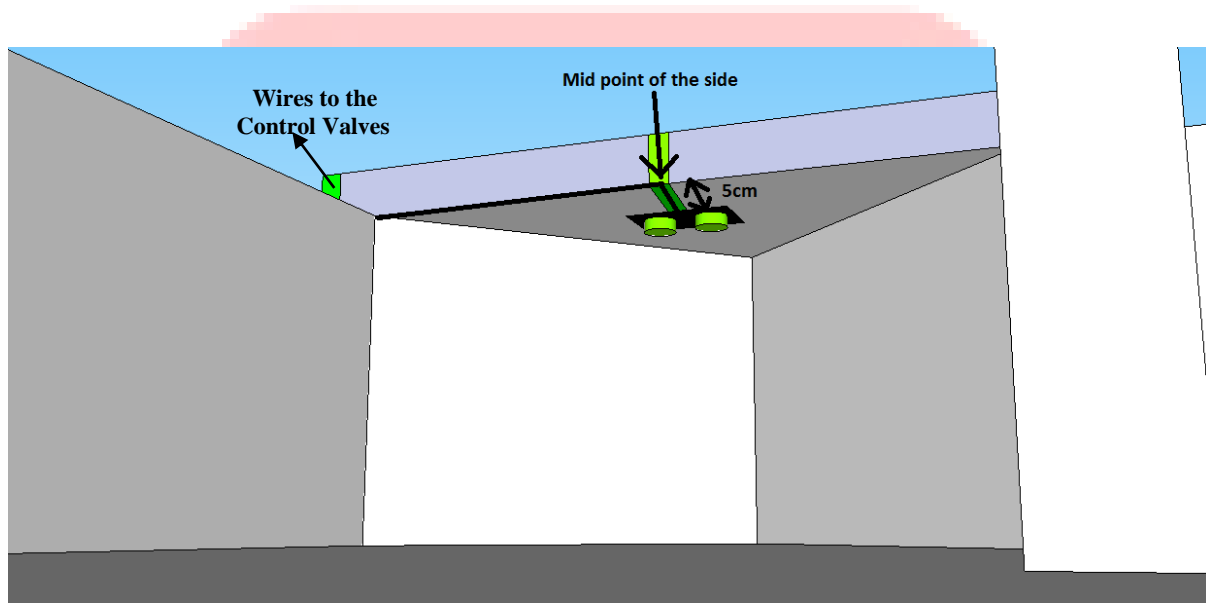

Figure 11: Placement of LED Array
- In each Pipeline Area in the Gas Leakage Zone an LED Array of a given color will be attached (if there is a Gas Leakage) to the Ceiling using double-sided tape as shown in the Figure 11.
- The distance of the LED Arrays is 5cm from the midpoint of the side of the Ceiling. One Example is shown in Figure 11.